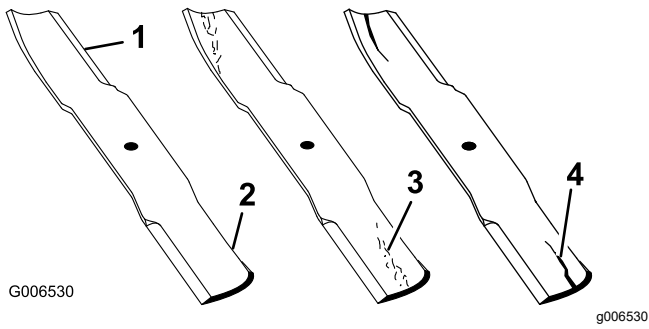

Figure 76
- Inspect the cutting edges (Figure 76).
- If you notice any cracks, wear, or a slot forming in this area, immediately install a new blade (Figure 76).